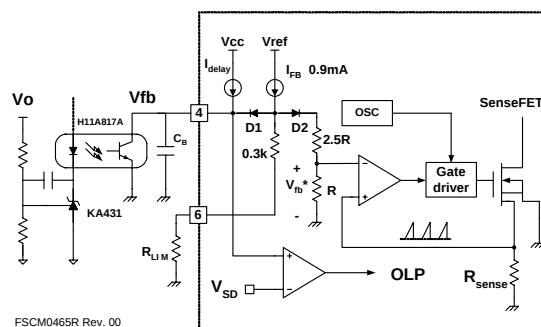

Figure 18. Pulse Width Modulation (PWM) Circuit
2. Feedback Control: The FSCM0465R employs current mode control, as shown in Figure 18. An optocoupler (such as the H11A817A) and a shunt regulator (such as the KA431) are typically used to implement the feedback network. Comparing the feedback voltage with the voltage across the R_{sense} resistor makes it possible to control the switching duty cycle. When the reference pin voltage of the KA431 exceeds the internal reference voltage of 2.5V, the H11A817A LED current increases, pulling down the feedback voltage and reducing the duty cycle. This event typically happens when the input voltage is increased or the output load is decreased.
2.1 Pulse-by-pulse Current Limit: Because current mode control is employed, the peak current through the SenseFET is determined by the inverting input of the PWM comparator (V_{fb}^*) as shown in Figure 18. When the current through the opto-transistor is zero and the current limit pin (#5) is left floating, the feedback current source (I_{FB}) of 0.9mA flows only through the internal resistor ($R+2.5R=2.8k$). In this case, the cathode voltage of diode D2 and the peak drain current have maximum values of 2.5V and 2.5A, respectively. The pulse-by-pulse current limit can be adjusted using a resistor to GND on the current limit pin (#5). The current limit level using an external resistor (R_{lim}) is given by: